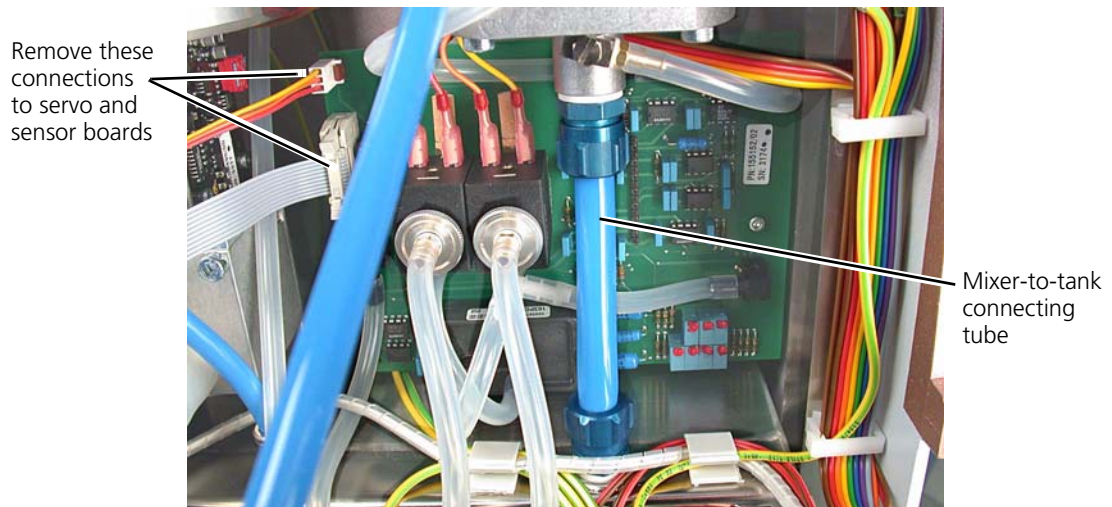

Figure 11-219. Connections to servo board and connector board
4. Remove from the sensor board, the electrical connections to the servo board and the connector board. (Figure 11-219.)
6. Remove the sensor board, pulling it around the large blue mixer-to-tank connecting tube shown in Figure 11-219.